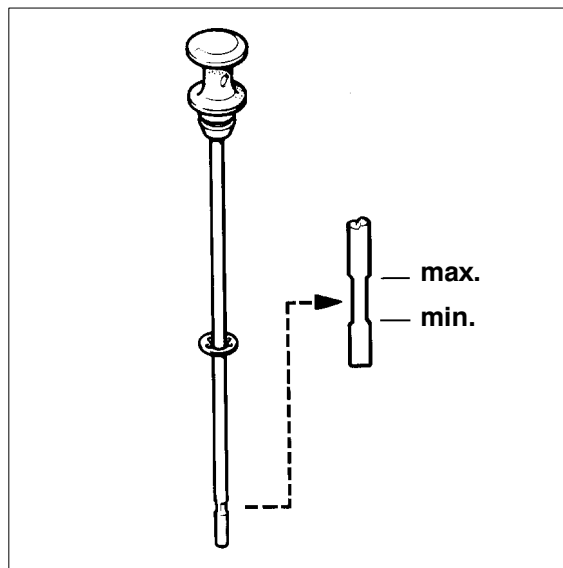

Fig. 5 Oil dipstick markings
Check oil level daily prior to putting compressor into operation. Check using oil dipstick. Take care that dip stick is inserted completely. Note that the oil level must be between minimum and maximum dipstick notches (see Fig. 5).
- Oil level is checked with oil dipstick, see Fig. 5 - oil level is correct if at upper mark.